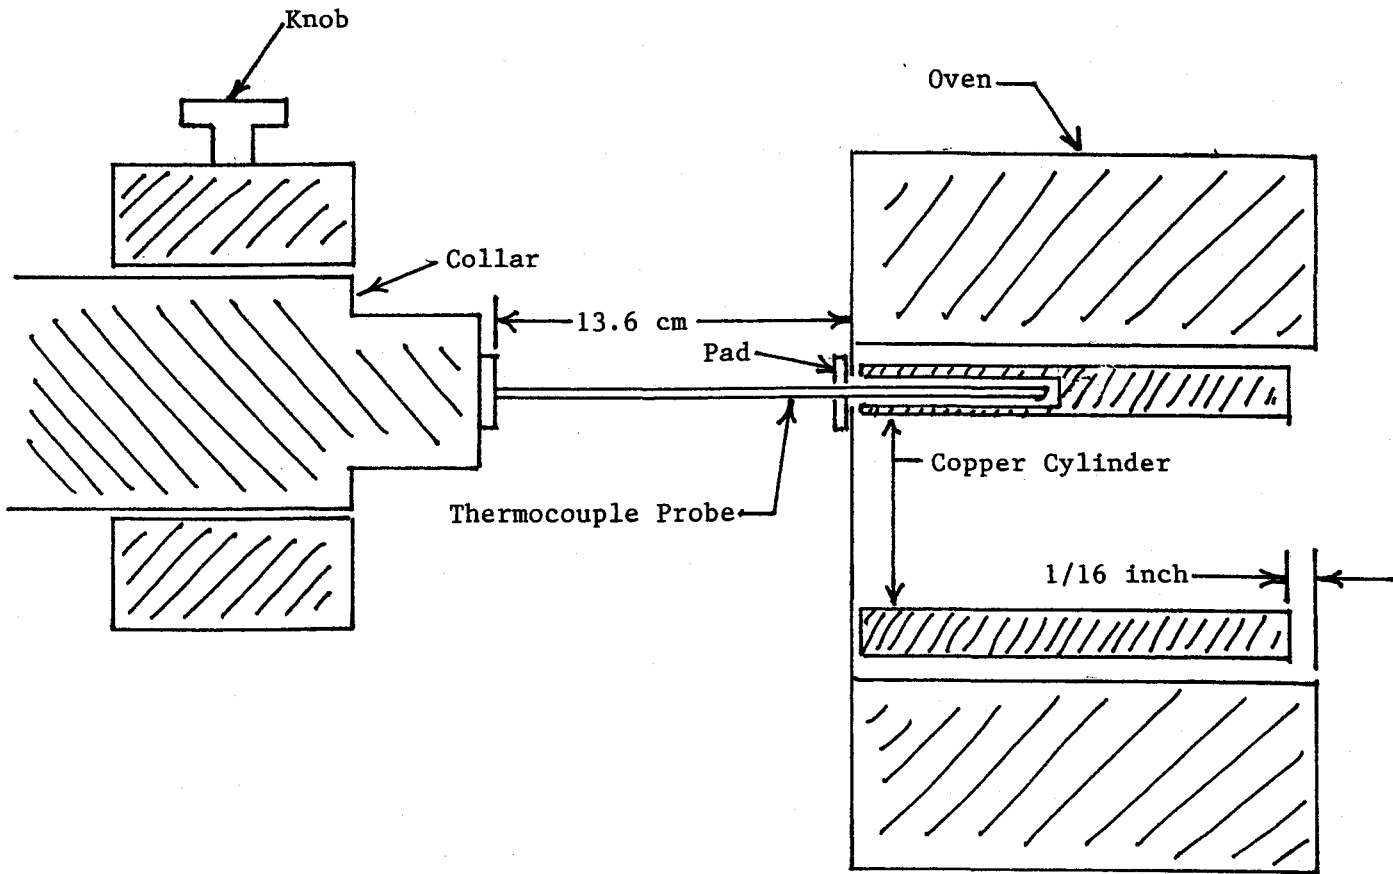

Fig. 5 Oven and Thermocouple Assembly (not to scale)
The tube has a small amount of liquid mercury in it. For the mercury pressure to be sufficient it is necessary to heat the tube to 170-200 deg C. There is an oven into which the tube is inserted. Inside the oven is a cylindrical copper tube to provide temperature uniformity. The Franck-Hertz tube goes inside the copper tube. A slide mechanism is provided to hold the tube and to insert the tube into the oven. A thermocouple in the form of a long thin tube sticks through a hole in the oven wall and goes all the way into a blind hole in the copper tube. *It is important that the thermocouple probe go all the way into the hole in the wall of the copper tube. See Fig. 5.* If it does not, the oven will overheat the tube and ruin it.
3. It is important that the thermocouple be fully inserted in a blind hole in the copper cylinder. Refer to Fig. 5. The copper cylinder should be fully inserted into the oven. If this is so its end will be recessed about 1/16th (2.5 mm) inch from the open end of the oven. Although not shown this way in Fig. 5, the collar on the thermocouple holder should be about 2 mm from the face of the thermocouple holder facing the oven. The distance between the closed face of the oven and the hex nut on the thermocouple holder should be about 13.6 cm. NOTE: If the thermocouple is removed from the apparatus, it is all too easy not to get it back right. The problem is that the copper cylinder is loose and not only slides in and out of the oven but it also rotates. If it rotates slightly, the blind hole for the thermocouple does not line up with the hole for the thermocouple in the wall of the oven. Then the thermocouple probe "bottoms" on the end of the copper cylinder and is not inserted in the blind hole. The temperature is misread, the oven overheats, and the tube probably ruined (BIG BUCKS).